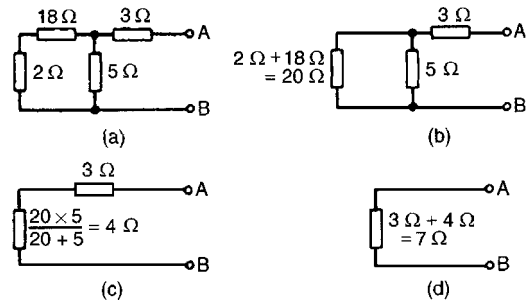

Figure 13.32
- (iv) The resistance ‘looking-in’ at terminals AB in Fig. 13.32(a) is obtained by reducing the circuit in stages as shown in Figures 13.32(b) to (d). Hence the equivalent resistance across AB is 7 Ω.